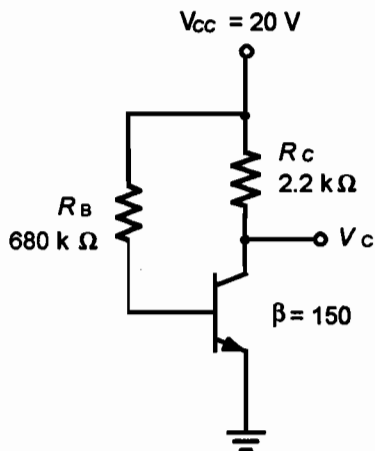

Figure 12.1
The resistor values of the circuits in Figures 12.1 and 12.2 are selected to provide a quiescent collector current near midpoint with an assumed transistor beta of 150. In this experiment, you will try three different transistors and measure the quiescent circuit values in the circuit of Figure 12.1.
- Using transistor A, build the circuit in Figure 12.1. Measure and record the following circuit values:
Build the circuit in Figure 12.1. Simulate an open  $R_B$  by replacing the 680 k $\Omega$  resistor with a 4.7 M $\Omega$  resistor. Apply circuit power. Measure the collector current and  $V_{CE}$ . Contrast this with your measurement of Section I, step 1.
1. In your measurements of the two circuits (Figures 12.1 and 12.2), you should have found that one circuit showed less variation in collector current and collector-emitter voltage for the three different transistors used. Which circuit seemed to have the more consistent quiescent operating point, and why would you expect it to be so?